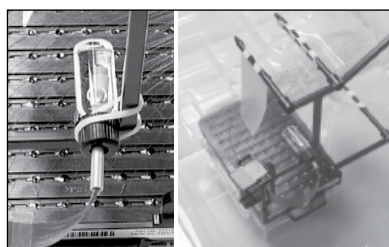

FIG. 2a
NOTE: Make sure screw cap is tight. For 3730 arrays, make sure the bottle is firmly attached to the frame; otherwise the bottle can swing freely and damage capillaries (FIG 2a).
- C. Place array in its original shipping container (FIG 2a/b) and note the serial number, date removed, and number of runs on the array. In many cases the box will have a different serial number than the array, so make sure you read the number from the array itself.